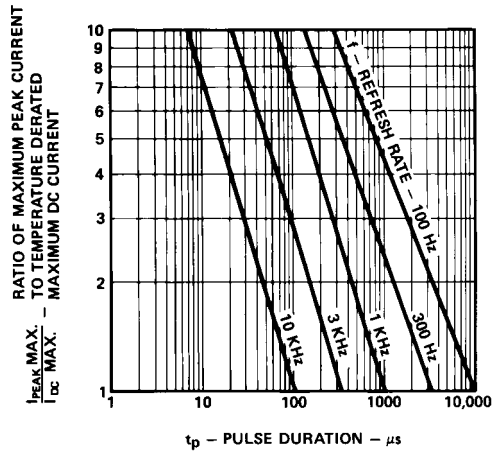

Figure 6. Maximum Tolerable Peak Current vs. Peak Duration (IPEAK MAX Determined from Temperature Derated IDC MAX).
2. Refer to Figure 6 to establish pulsed operating conditions.